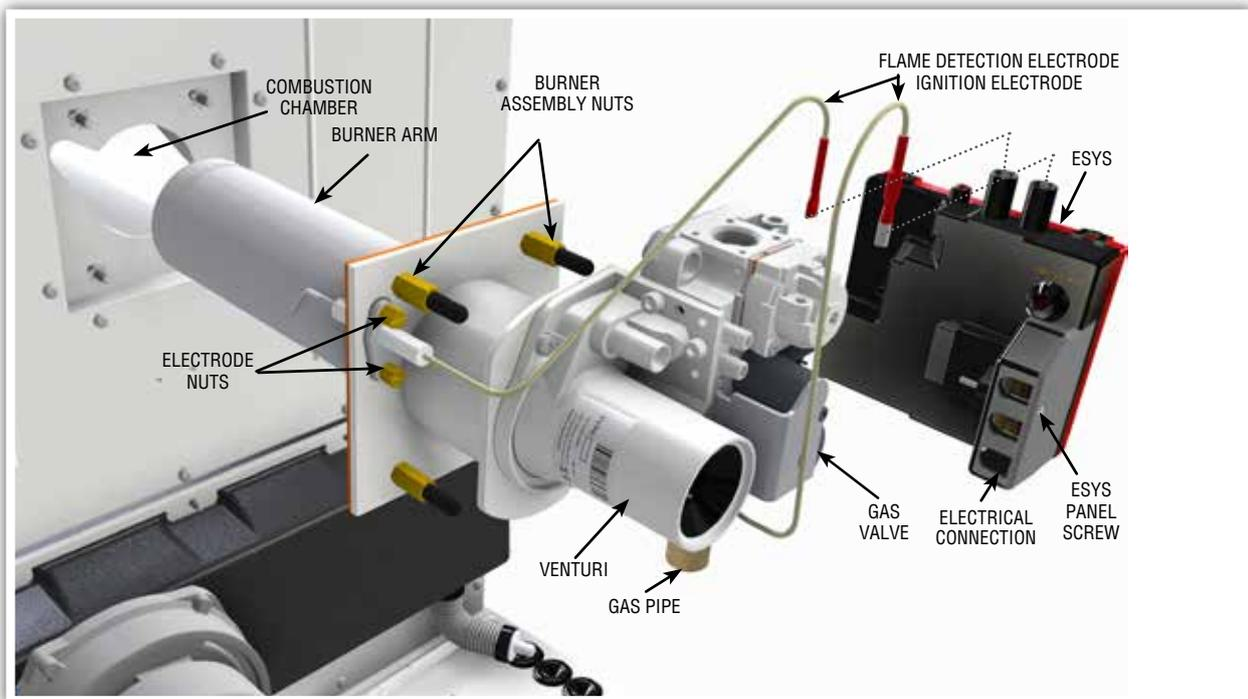

FIGURE 19. MAIN BURNER ASSEMBLY REMOVAL
- 16.4.1 Refer to section 16.3. See Figure 19.